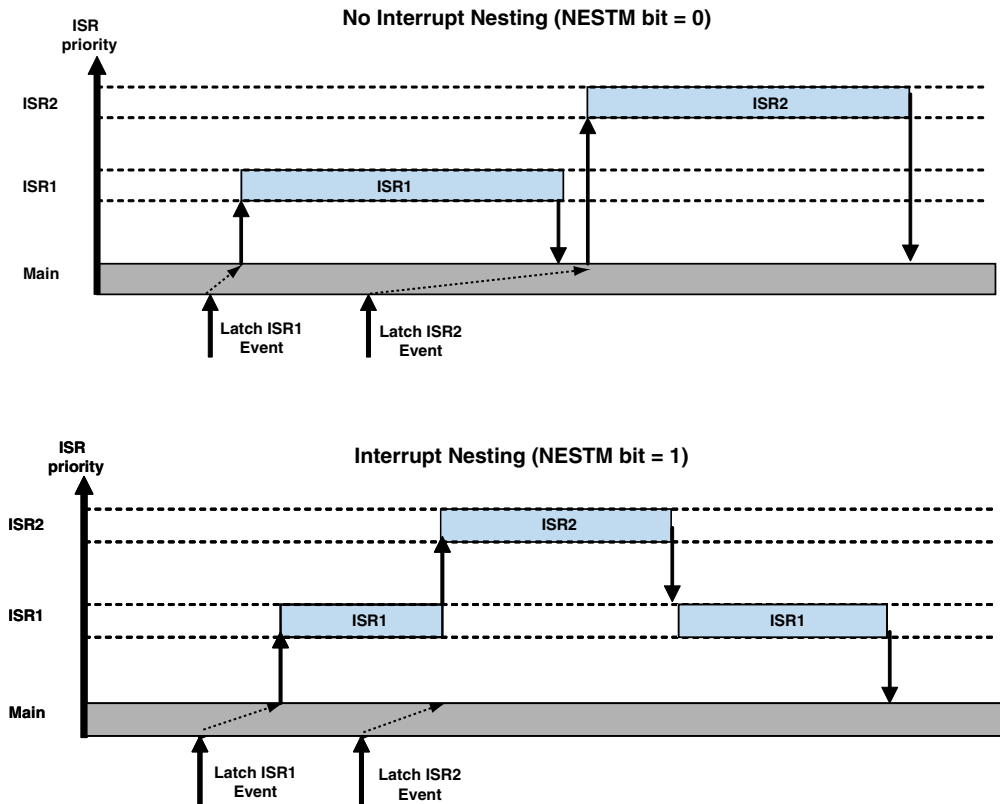

Figure 4-6. Interrupt Nesting
When interrupt nesting is enabled, a higher priority interrupt can interrupt a lower priority interrupt's service routine (Figure 4-6). Lower
- ⊘ If nesting is enabled and a higher priority interrupt occurs immediately after a lower priority interrupt, the service routine of the higher priority interrupt is delayed. This delay allows the first instruction of the lower priority interrupt routine to be executed, before it is interrupted (Figure 4-6).